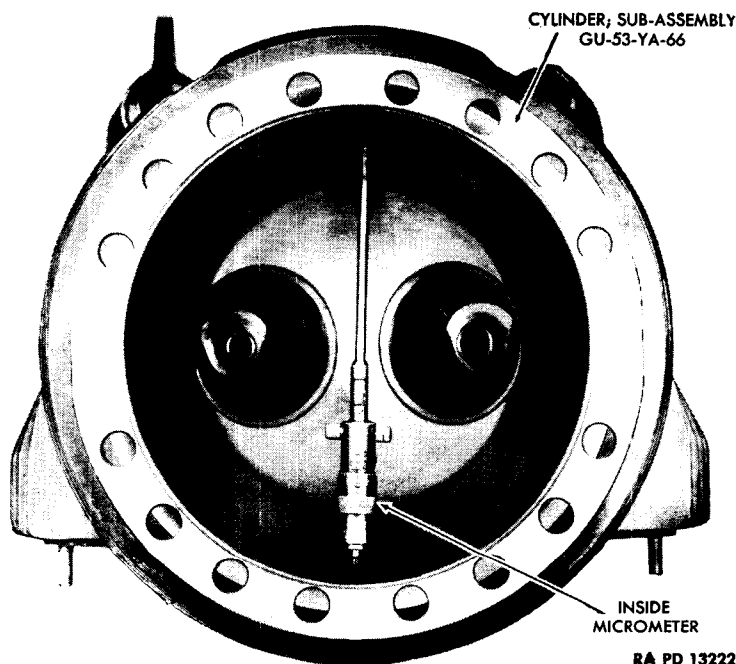

Figure 59—Measuring the Cylinder Barrel with a Micrometer
73. INSPECT THE CYLINDERS (figs. 59 and 60).
(b) Check the cylinder barrel for taper and for out-of-round (fig. 59). The maximum worn diameter of the cylinder is 5.762 inches at $\frac{3}{4}$ inch from the top of the barrel. Cylinder barrels that exceed the diameter of 5.762 inches should be discarded.